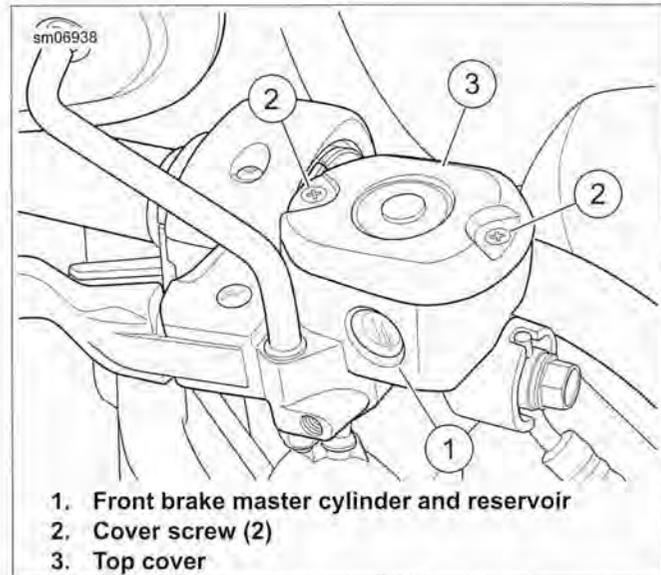

Figure 2-120. Front Brake Master Cylinder Reservoir
1. See Figure 2-120. Position motorcycle so that top of front master cylinder reservoir (1) is level.